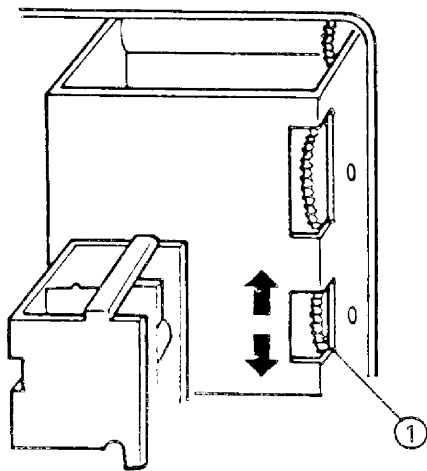

Figure 6
| CALIBRATION | Hold PRESELECTOR TUNE knob with your hand, and set the gear ①, shown in Figure 6, so that the Preselector Dial is as shown in Figure 7. |